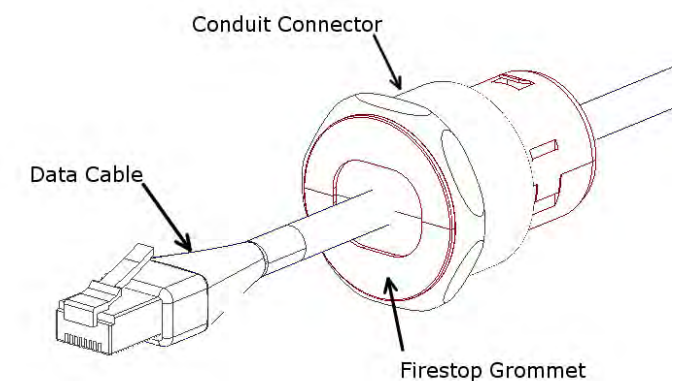

Figure 4
Step 4 – Run the data cable through the conduit connectors located on sides of the *access point enclosure*. Pull the data cable through the conduit connector far enough to allow attachment to the access point (8" - 10"). Snap the firestop grommet on to the cable and slide it inside the conduit connector (Ref. Figure 4).